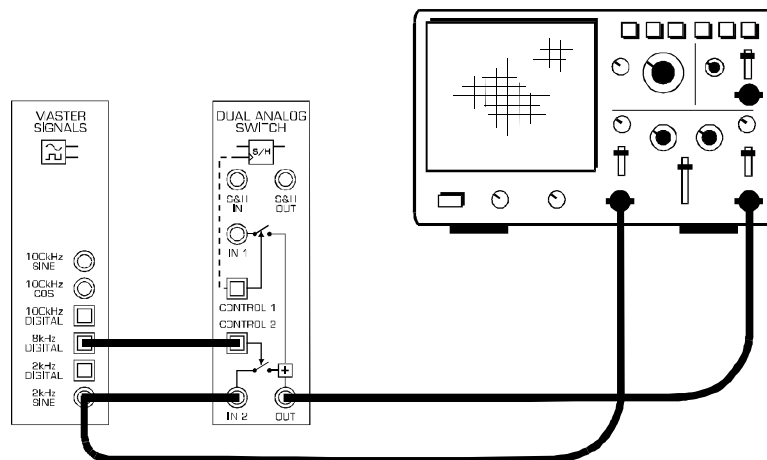

Figure 2
2. Connect the set-up shown in Figure 2 below.
The set-up in Figure 2 can be represented by the block diagram in Figure 3 below. It uses an electronically controlled switch to connect the message signal (the  $2\text{kHz}$  *SINE* output from the Master Signals module) to the output. The switch is opened and closed by the  $8\text{kHz}$  *DIGITAL* output of the Master Signals module.